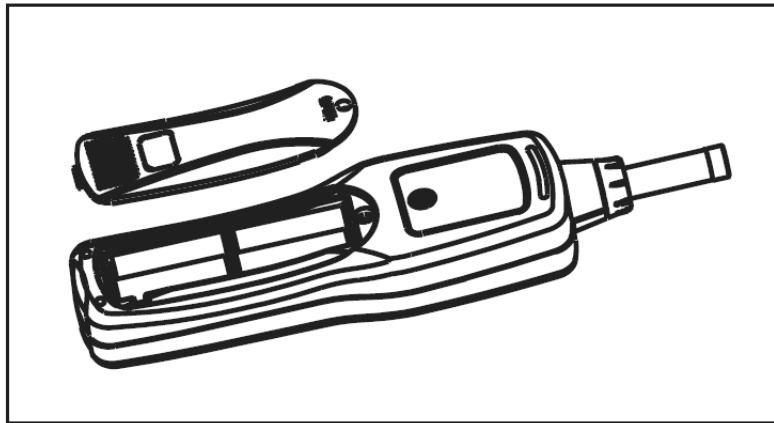

figure 5
B. Replacing the Battery (see figure 5)